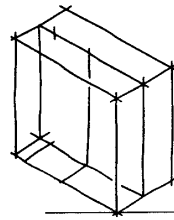

FIGURE 2.60 ■ Step 2, sketch isometric lines.
Step 2. Sketch in all isometric lines, as shown in Figure 2.60.